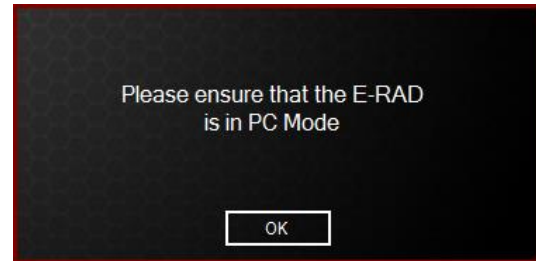

Figure 8.2-4: PC Mode Prompt Window
**Note:** Ensure that the E-RAD BLU is in PC Transfer Mode (a prompt message will appear as in Figure 8.2-4) and press "OK".